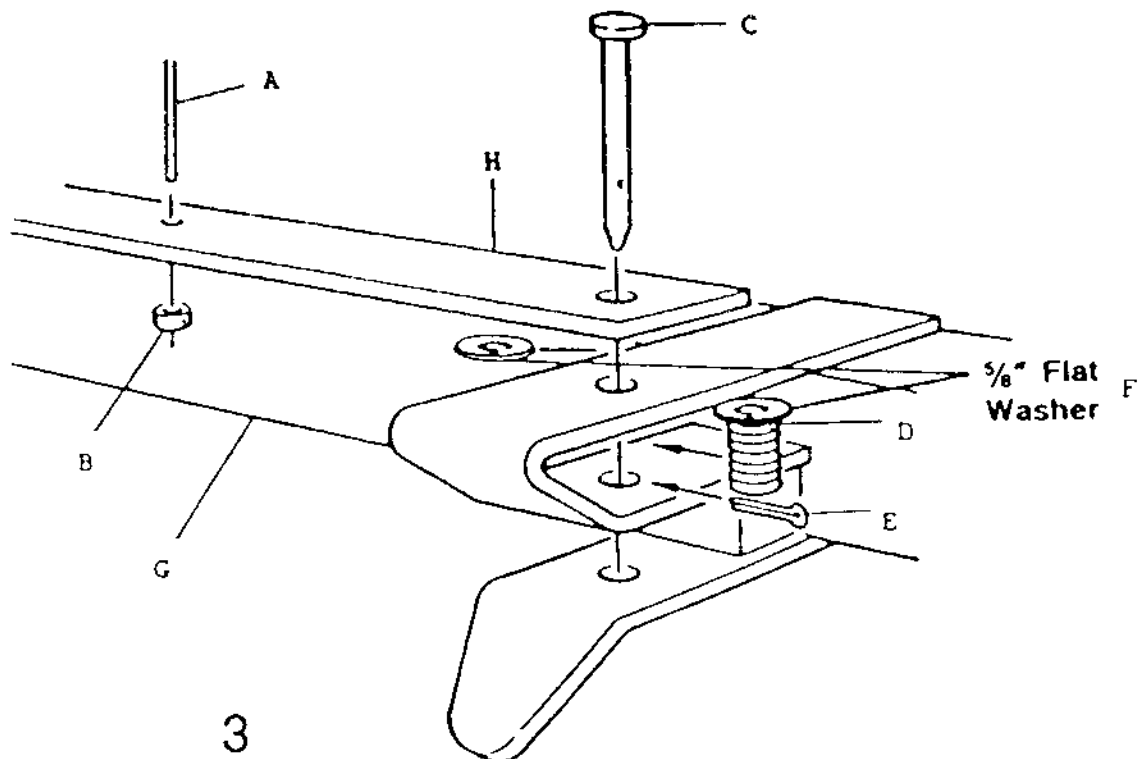

Figure 1
5. Assemble the PUSH BEAM ASSEMBLY (Ref. No. G, Fig. 1) as shown.
### PUSH BEAM ASSEMBLY PARTS LIST (FIGURE 1)